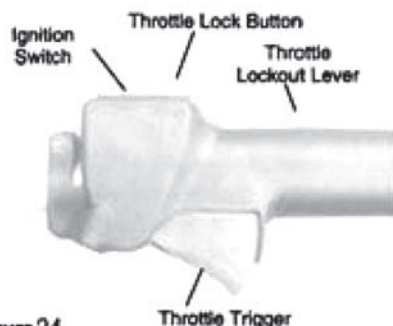

Figure 24
1. Set the throttle trigger to “fast idle” as follows (Figure 24):